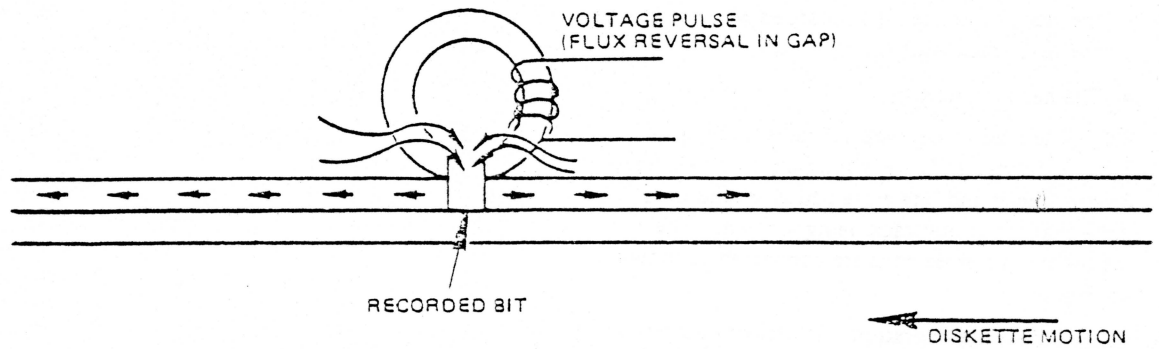

FIGURE 21. READING A BIT
7.4 During a read operation, a bit is read when the flux direction in the ring is reversed as a result of a flux reversal on the diskette surface. The gap first passes over an area that is magnetized in one direction, and a constant flux flows through the ring and coil. The coil registers no output voltage at this point. When a recorded bit passes under the gap, the flux flowing through the ring and coil will make a 180° reversal. This means that the flux reversal in the coil will cause a voltage output pulse. See Figure 21.